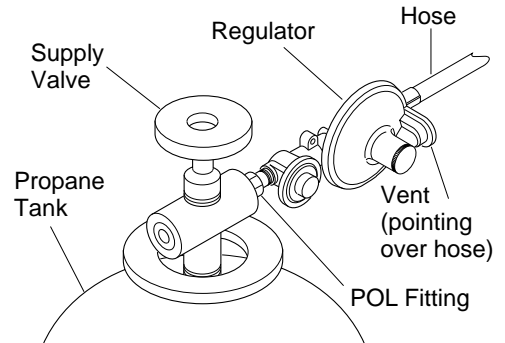

Figure 3 - Regulator With Vent Pointing Over Hose
2. Connect POL fitting on hose/regulator assembly to propane tank(s). Turn POL fitting counterclockwise into threads on tank. Tighten firmly using wrench. Tighten regulator with vent pointing over the hose (see Figure 3).